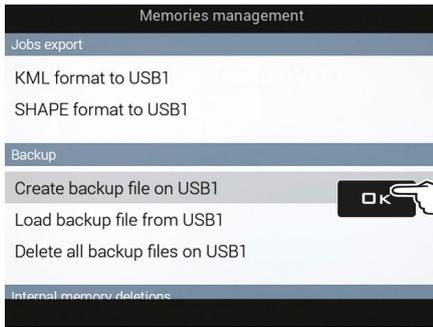

Fig. 291
- Select **Create backup file on USB1** (Fig. 291) and press **OK**.